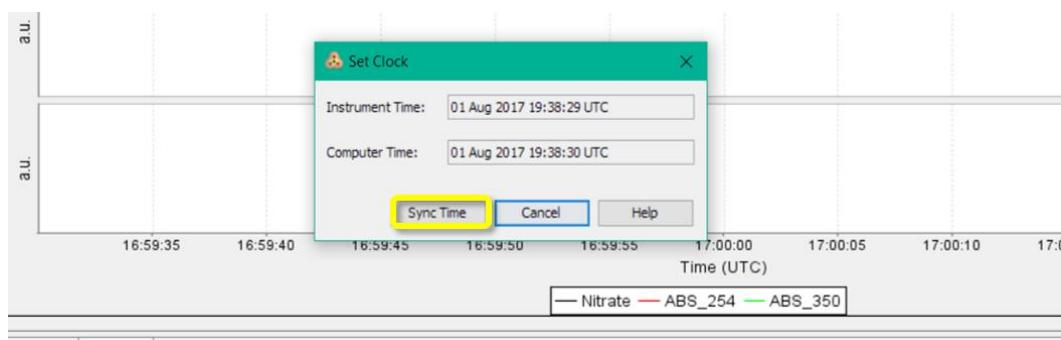

Figure 119. Click "Sync Time" to Synchronize SUNA Internal Clock
2. A Set Clock window opens. Click “Sync Time” (the SUNACOM software automatically converts your computer time to UTC). See Figure 119.